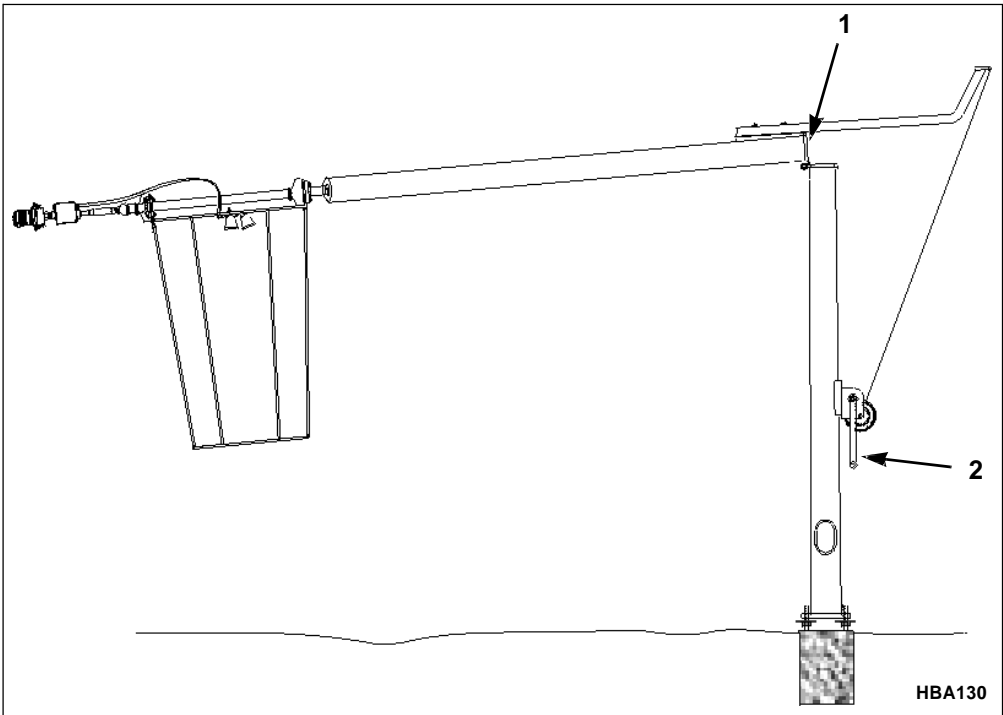

Figure 20. Lowering the Basket
1. Remove the four hinge bolts from the hinge at the center of the pole, see Figure 20 on page 38.
2. Using the winch slowly crank the pole down. Lower the pole to an easy working height, see Figure 20 on page 38.